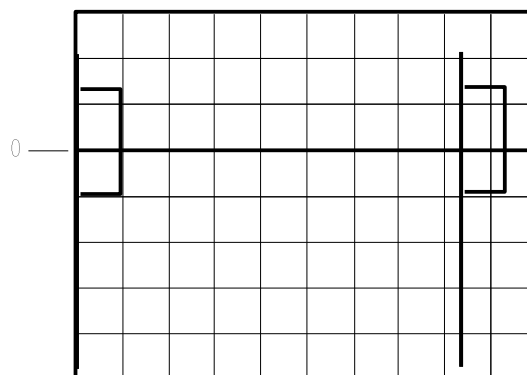

Figure 2
**6.2.11** Waveform on scope (AGATE) should look like the figure 2 below: